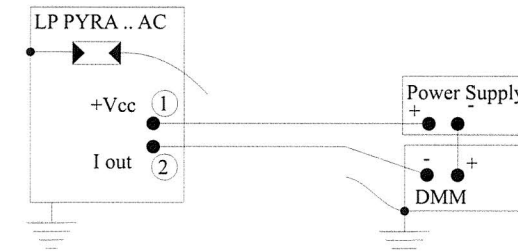

Fig. 5
- LP PYRA 03 AC is to be connected to a DMM and a power supply as show below (Figure 5). To read the signal, the load resistance must be  $\leq 500\Omega$